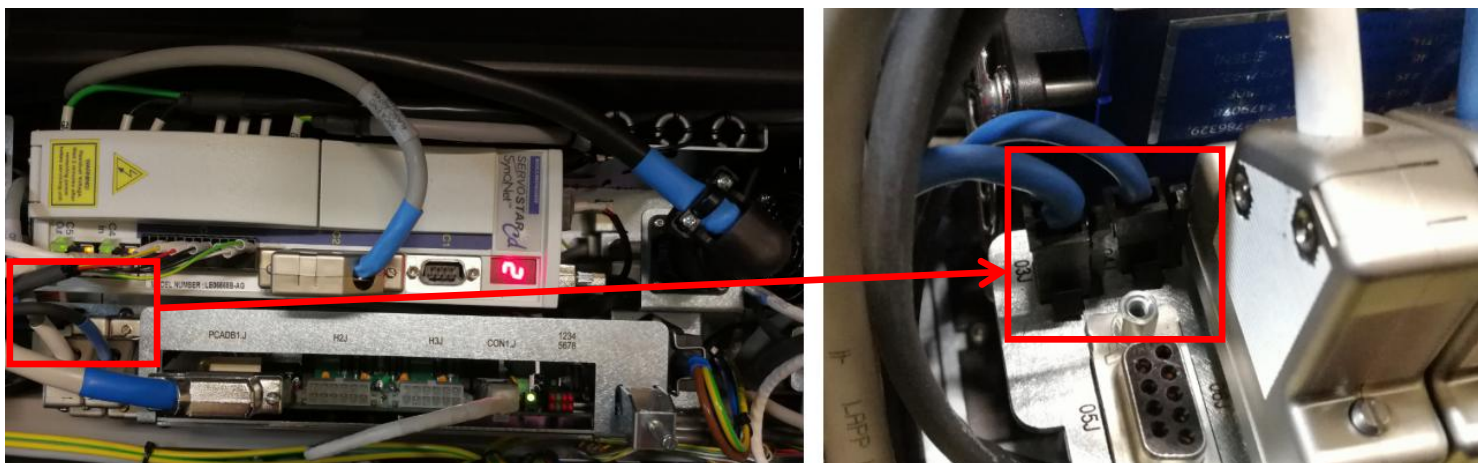

Figure 26
31. Connect 2 x Connector (24VDC & 5 VDC) at 03J & 04J as Figure 26.